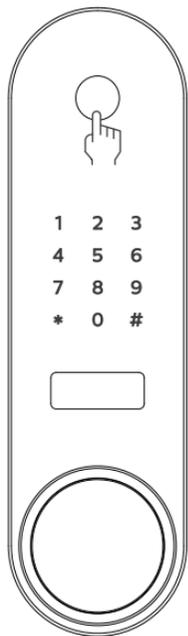

Figure 2
1. Open safe door and press the red setting button '⊗' on the battery compartment. After hearing a voice prompt 'Please enter fingerprint or PIN code', enter your fingerprint as shown in Figure 2. A voice prompt 'Fingerprint entering succeeded.' indicates successful operation. If the entering fails, there will be a voice prompt 'Fingerprint entering failed'. The system will automatically exit if there is no entering in 8 seconds.